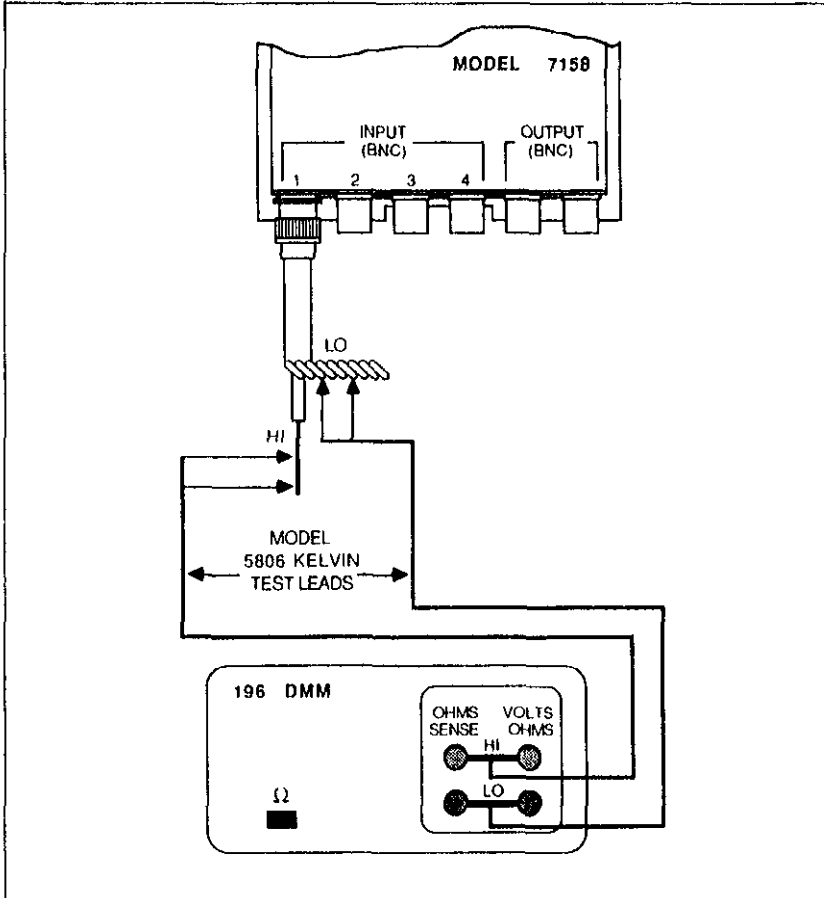

Figure 3-3A. Contact Resistance (Signal HI to LO Relays)
5. Connect one of the BNC plugs to an input connector on the card. Connect the Kelvin leads to the coax pigtail as shown in Figure 3-3A.